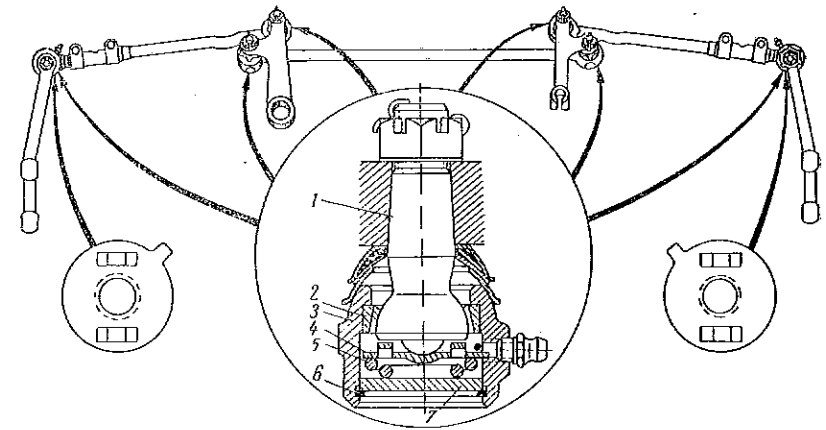

Fig. 26. Steering Rods:
1. Uncotter and loosen two bolts of clamps coupling the ends of adjusting tube (Fig. 26).